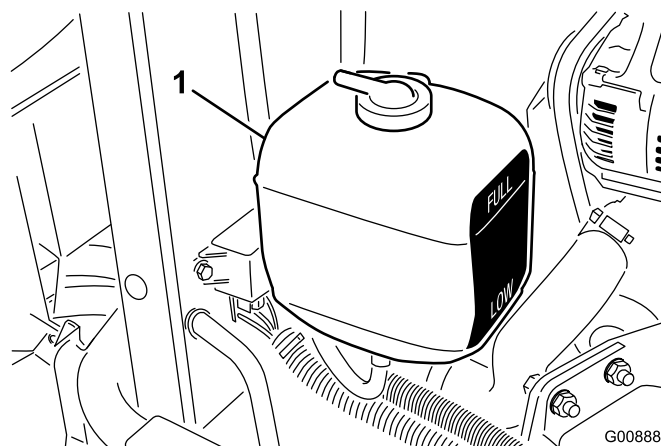

Figure 28
1. Check the coolant level in the expansion tank (Figure 28). With a cold engine, the coolant level should be approximately midway between the marks on the side of the tank.